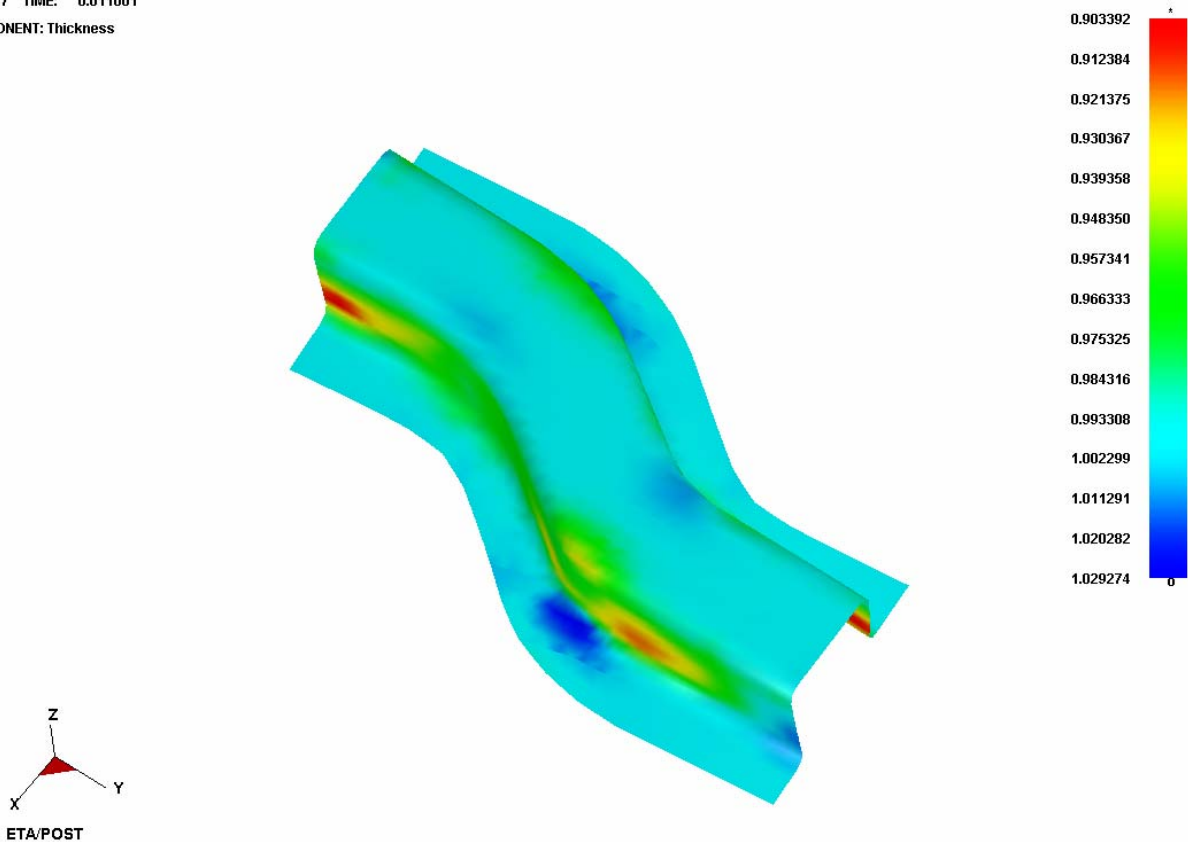

Figure 154: Thickness/Thinning contour
2. Select **Current Component** from combo box, either THICKNESS or THINNING. The thickness contour of deformed dome is illustrated in Figure 154.